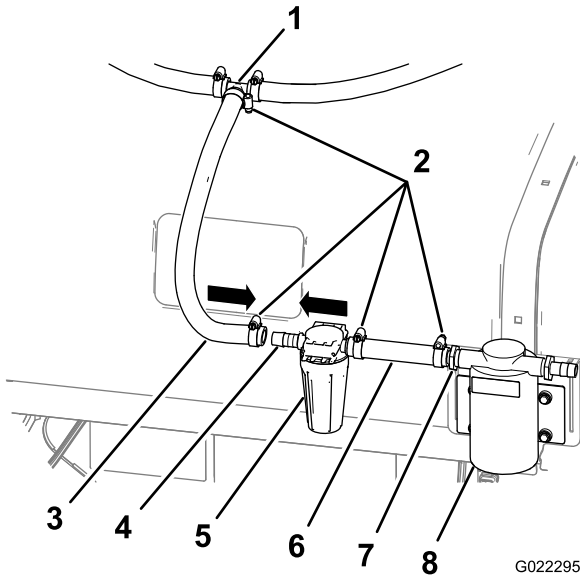

Figure 11
1. Attach one end of the 42 cm (16.5 inch) hose to the T-fitting with a hose clamp (Figure 11).
2. Attach the other end of the hose to the rinse pump filter with a hose clamp (Figure 11).
3. Attach the 15 cm (6 inch) hose to the other side of the rinse pump filter with a hose clamp (Figure 11).
4. Attach the other end of the hose to the rear hosebarb on the rinse pump with a hose clamp (Figure 11).